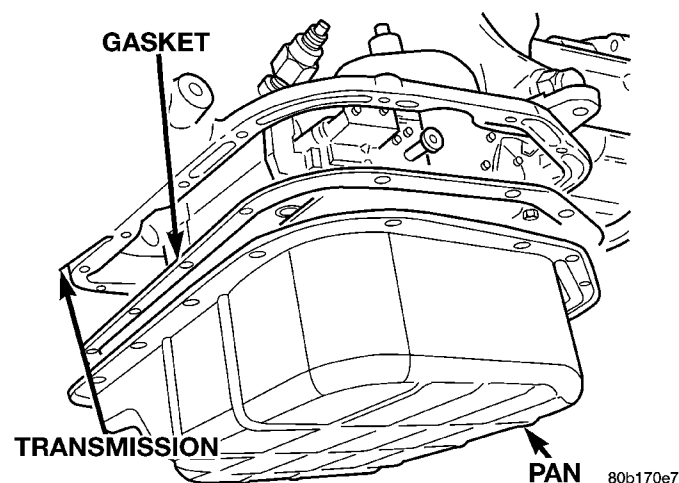
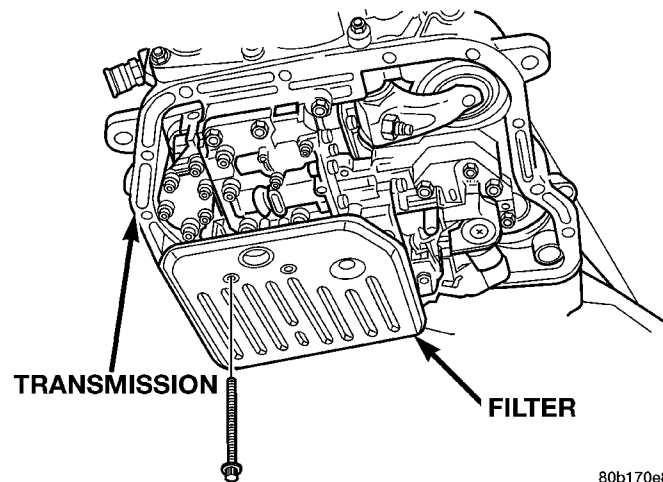

Fig. 13 Transmission Pan—Typical
Fig. 14 Transmission Filter—Typical
- (1) Hoist and support vehicle on safety stands.
- (2) Place a large diameter shallow drain pan beneath the transmission pan.
- (3) Remove bolts holding front and sides of pan to transmission (Fig. 13).
- (4) Loosen bolts holding rear of pan to transmission.
- (5) Slowly separate front of pan away from transmission allowing the fluid to drain into drain pan.
- (6) Hold up pan and remove remaining bolt holding pan to transmission.
- (7) While holding pan level, lower pan away from transmission.
- (8) Pour remaining fluid in pan into drain pan.
- (9) Remove screws holding filter to valve body (Fig. 14).
- (10) Separate filter from valve body and pour fluid in filter into drain pan.
- (11) Dispose of used trans fluid and filter properly.
(1) Place replacement filter in position on valve body.
(2) Install screws to hold filter to valve body (Fig. 14). Tighten screws to 4 N·m (35 in. lbs.) torque.
(3) Place new gasket in position on pan and install pan on transmission.
(4) Place pan in position on transmission.
(5) Install screws to hold pan to transmission (Fig. 13). Tighten bolts to 17 N·m (150 in. lbs.) torque.
(6) Lower vehicle and fill transmission with Mopar® ATF Plus 3, type 7176 fluid.